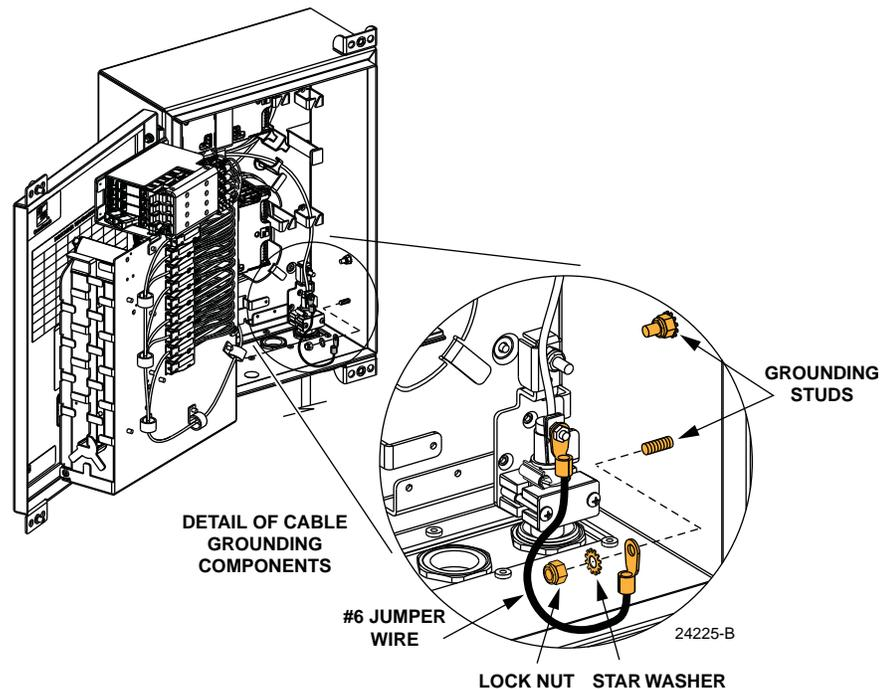

Figure 30. Distribution Cable Grounding
2. Remove the lock nut and star washer from the distribution cable grounding stud located in the lower left corner of the cabinet as shown in Figure 30.